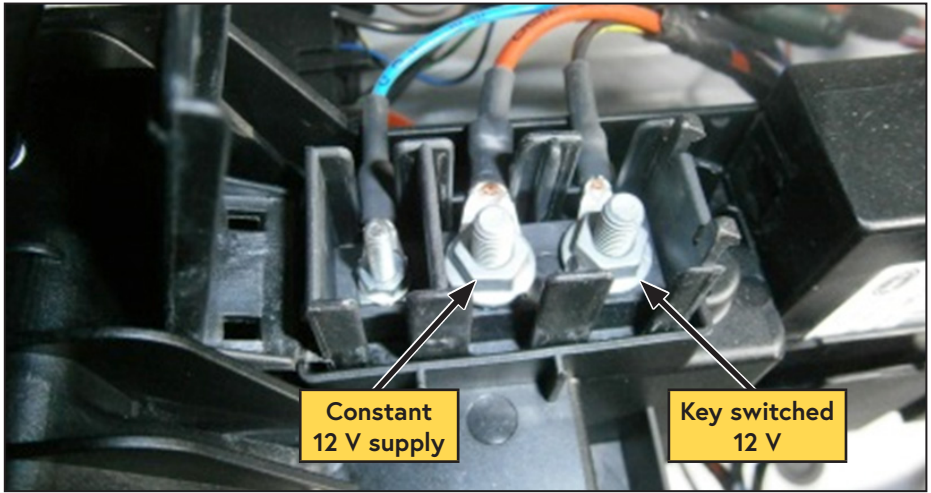

Figure 62 — Tying into vehicle power
- Connect the red wire from the Control Module to the terminal that holds the OEM red wire (Figure 62).
- Connect the orange wire from the Control Module to the terminal that the OEM black wire with yellow stripe is attached to (Figure 62).